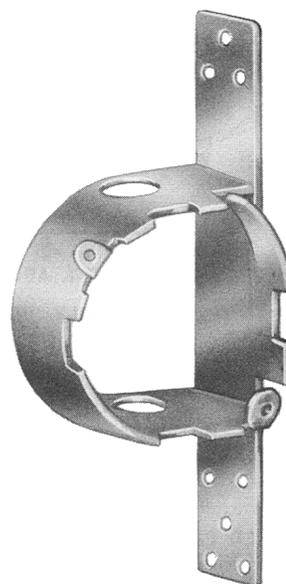

Fig. 25 — 63A Bracket
**3.02** The 63A bracket (Fig. 25) is used in prewiring a building (i.e. house) during construction prior to finishing the wall surface. The